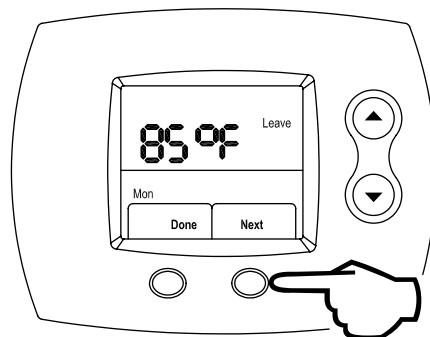

Figure 89
Step 15: Press the **RIGHT** (Next) button to lock in the Leave period water temperature, as shown in Figure 89. Now, the Leave time period is set for the day being edited.